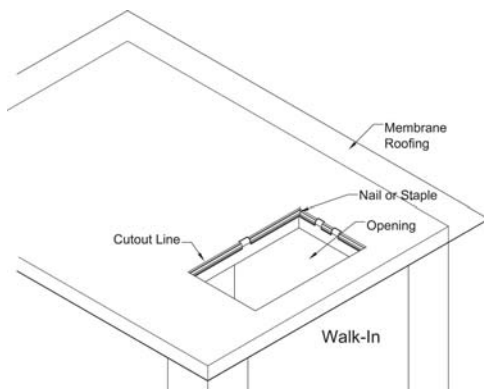

Figure 4
3. Lay the membrane roofing material over the walk-in ceiling sections and curb leaving a six inch overhang on all four sides of the walk-in. Using an utility knife, cut a hole in the membrane roof approximately 1-1/2" in from the edge of the opening. (The resulting hole in the membrane will be smaller than the ceiling opening). Fold the 1-1/2" membrane flaps into the opening, notching the membrane around the locators and divider. Use either staples, roofing nails, sheet metal screws, caulk, glue, etc. to fasten the membrane roofing material to the inside edge of the curb frame. Refer to Figure 4.